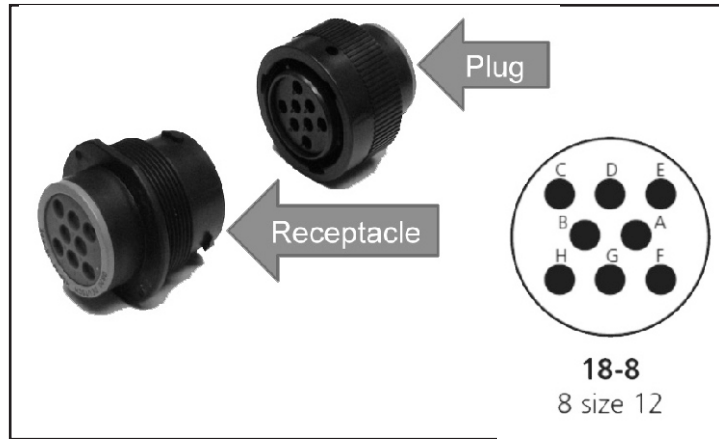

Figure 3: 8-contact Connector
- 8-contact connector - **Tables 3 & 5, Figs. 3 & 4.**